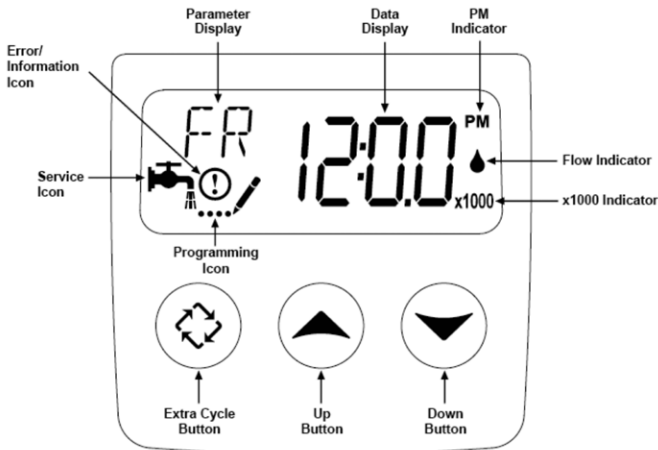

Figure 5
- e) Manually initiate a regeneration by pressing and holding the "Extra Cycle" button on the front of the controller for approximately 5 seconds (see figure 5). Release the "Extra Cycle" when you hear the valve start to cycle. The controller will automatically step the valve through the proper cycles. This will take approximately two hours.